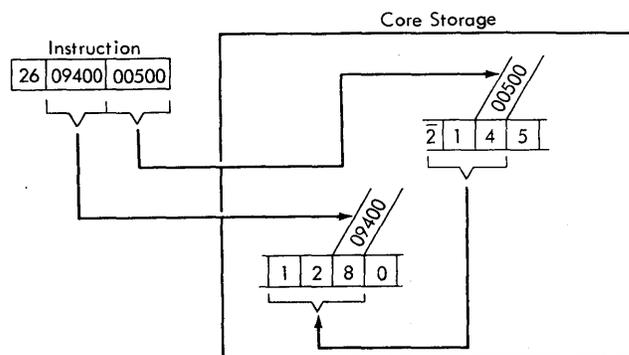

Figure 39. Transmit Field - Data Flow
In Figure 39, the data (214) in the field defined by the Q address (00500) replaces the data (128) in the field defined by the P address (09400). The data at the Q address is not changed.